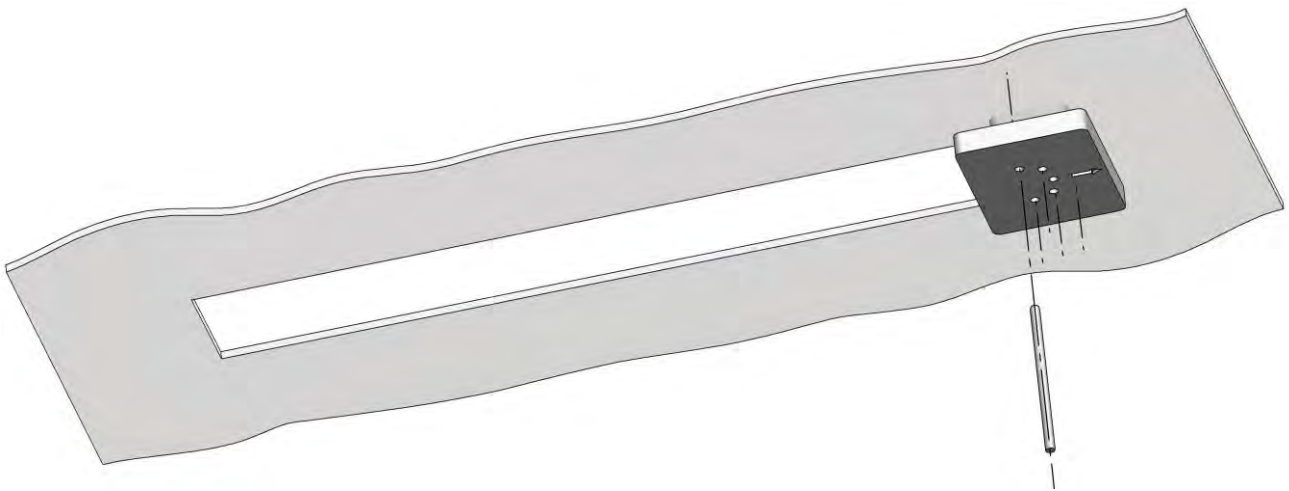

Figure 3
4. Hold the template and then pass the marker through the holes in the block and mark the hole drilling points on the fixed (primary) ceiling (**Figure 3**).